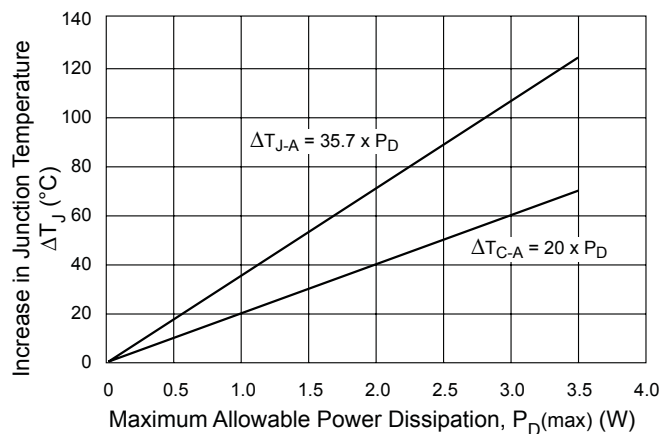

Figure 15. Temperature increase relationship
Based on the  $P_D$  calculated using the above formula, the expected increase in operating junction temperature,  $\Delta T_J$ , of the IC can be estimated using figure 15.
5. Refer to figure 15 and locate the value found in step 4 on the  $\Delta T_{CA}$  trace.